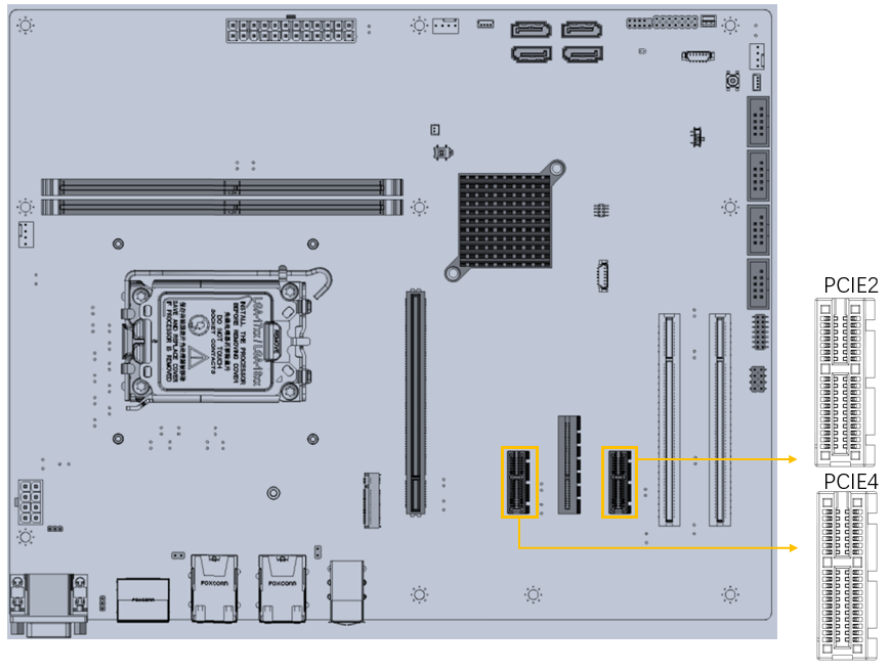

Figure 3-29: PCIe x1 Slot Locations
- CN Location:** See **Figure 3-29**